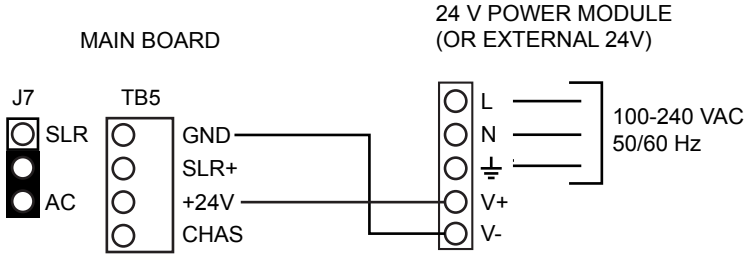

Figure 3.9—AC power connections to CS60 main board
1. Set the J7 jumper to the AC position (Figure 3.9, page 28).
3. Attach the external power cable wires to the ground, neutral (N) and line (L) terminals of the power supply.